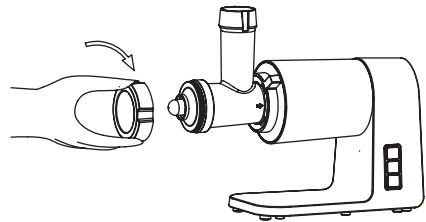

Figure 12.
3. Screw fixing ring into place until tight (fig. 12). DO NOT OVER TIGHTEN.